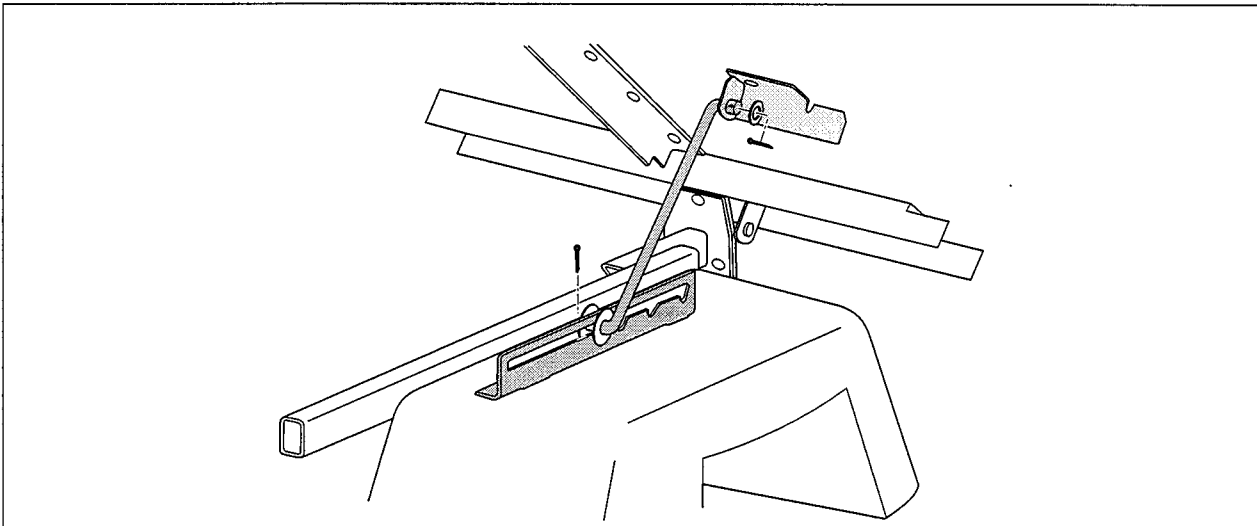

Fig. 3 Prop Assembly Removal
6. Remove and discard the bed prop assembly from the driver side rear fender. (See Fig. 3)